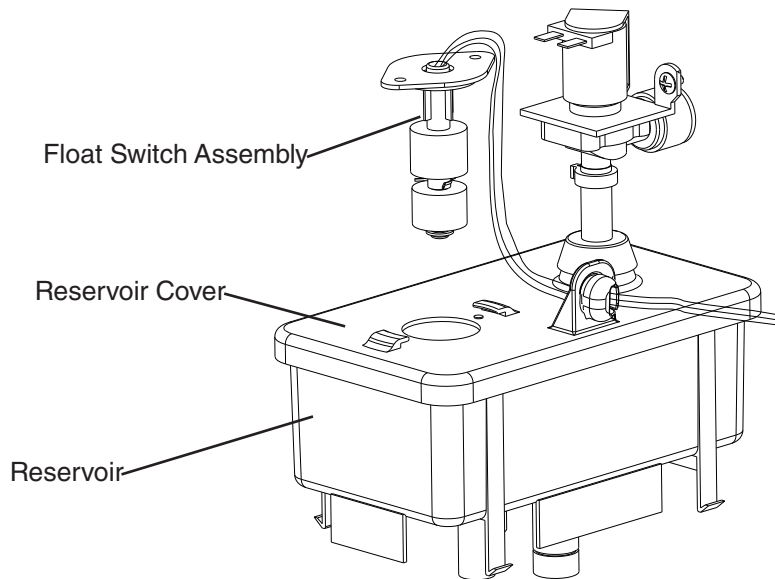

Fig. 8
- 5) Remove FS assembly from the reservoir cover. See Fig. 8.